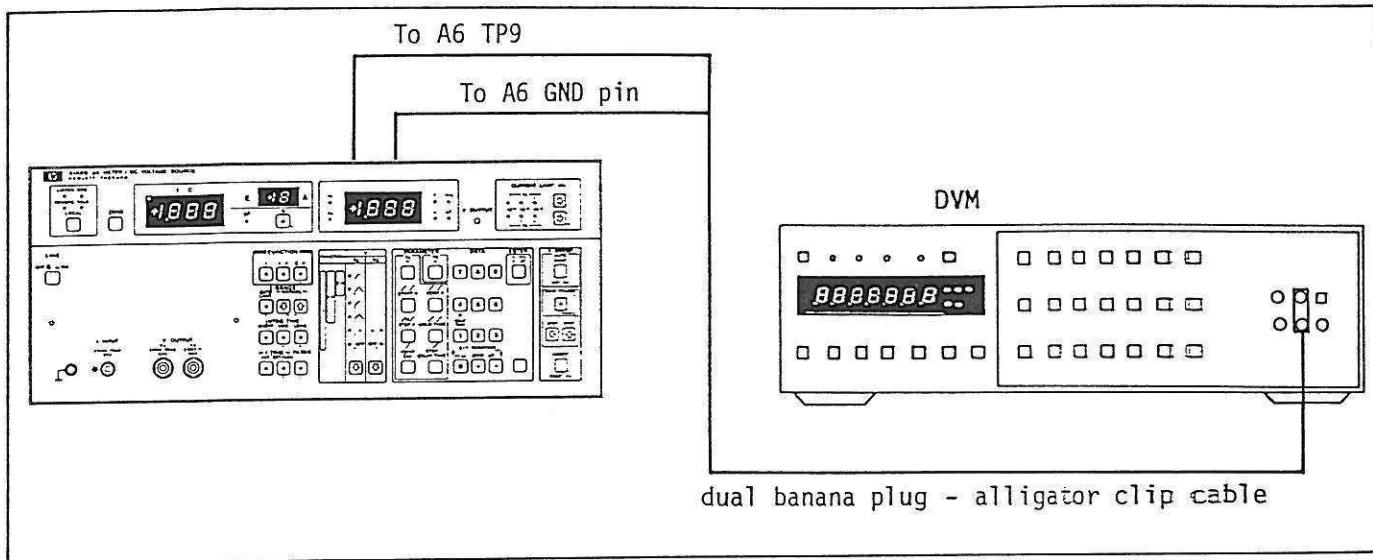

Figure 5-6. VS (Voltage Source) Ramp Generator Adjustment Setup.
**PROCEDURE:****(1) dV/dt Buffer Zero Adjustment.**
4. Connect the positive input of the DVM to "dV/dt BUF. OUT" A6TP9 (see Figure 8-45 for location) and the negative input to A6GND with dual banana plug-to-alligator clip cable. See Figure 5-6.